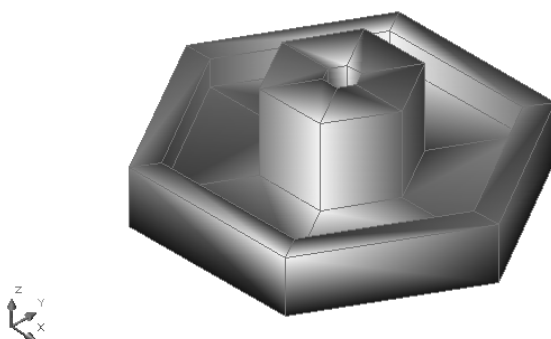

Figure 22-25: The model shaded with the Gouraud Shaded, Edges On option
10. Save your drawing. It should look like Figure 22-25.